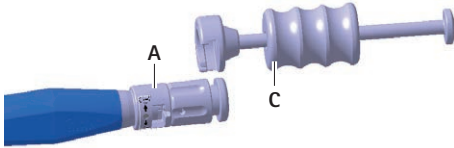

Fig. 5 Mounting the slap hammer onto the insertion instrument
- ▶ Mounting the slap hammer **C** onto the insertion instrument **A**, see Fig. 5.
- ▶ Mounting the slap hammer **B** onto the insertion instrument **A**, see Fig. 5.